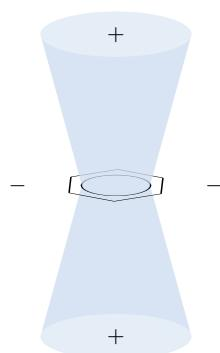

Figure 9.1: The effect of the ring current in benzene.
- For more details, see the discussion associated with Figure 9.1 below.